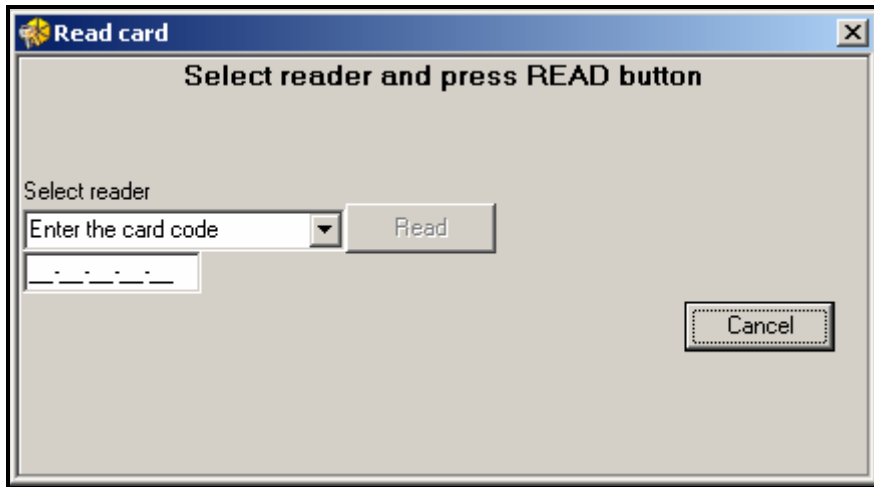

Fig. 24. Window for adding card to the user.
- 8. If the user is also to use the card, click with your mouse on the ADD button. The READ CARD window will open (see Fig. 24).